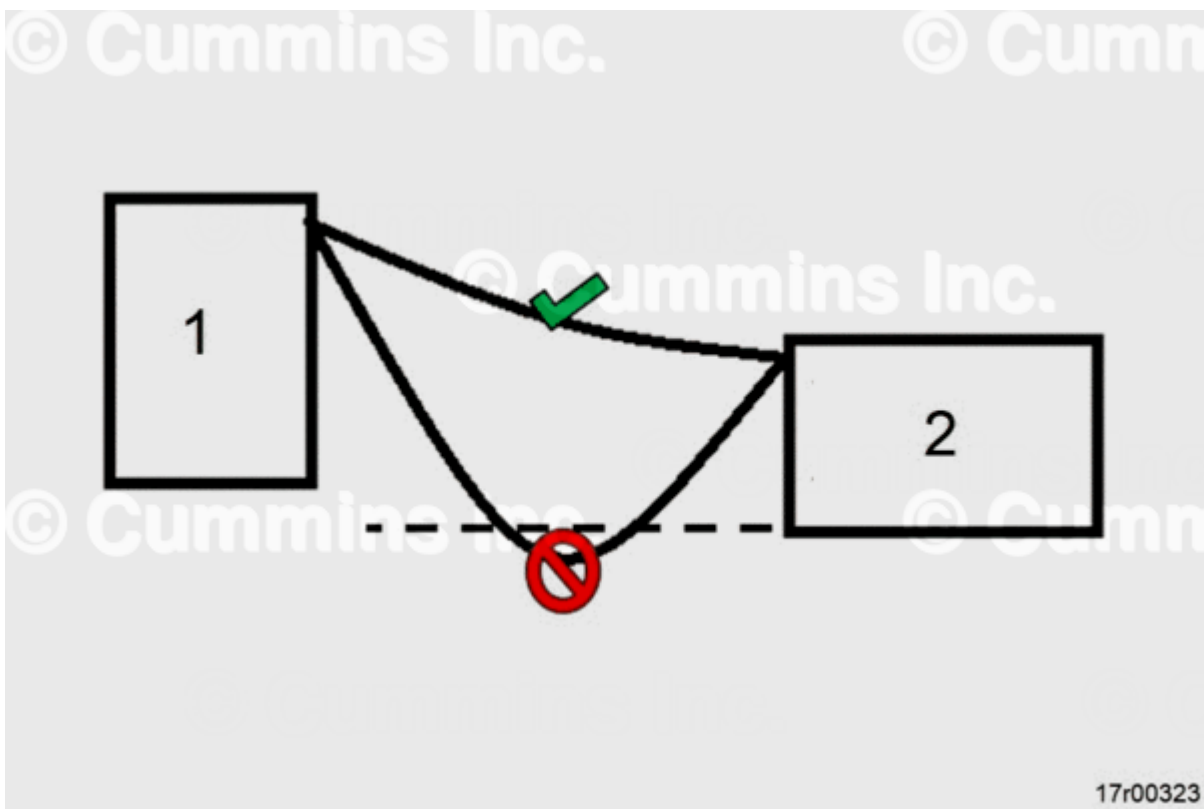

Figure 1, Coolant Vent Line Routing. OEM Top Tank (1). VGT Actuator (2).
- Turbocharger actuator vented coolant drain line orientation **must** be determined in order to determine correct service kit to be ordered. See Figures 1, 2, 3, and 4 for existing product and service kit layouts.
- Dips or sags of the coolant vent line below the bottom surface of the actuator should be avoided. If the coolant vent line to the OEM top tank, dips or sags below the bottom surface of the turbocharger actuator, the coolant vent line **must** be shortened and raised to be above the top surface of the turbocharger actuator. See Figure 1 below.